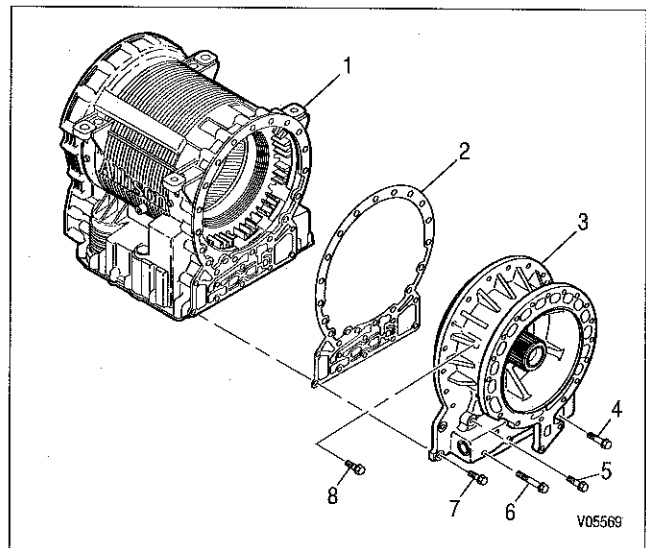

Figure 6–14. Transfer Case Adapter Housing Installation
7. Beginning with S/N 6510205652 (Foldout 18,B) the transfer case housing, C6 housing and gasket have been changed to use improved transfer case retaining bolt 27 (bolt 7 in Figure 6–15), a stepped and knurled-shank bolt. Install bolt 27 passing through C6 housing into the adapter housing. If reusing the former housings, install bulge-bolt 28 passing through C6 housing into the adapter housing (SIL 16-WT-00). Tighten bolt 27 or 28 to 51–61 N·m (38–45 lb ft).